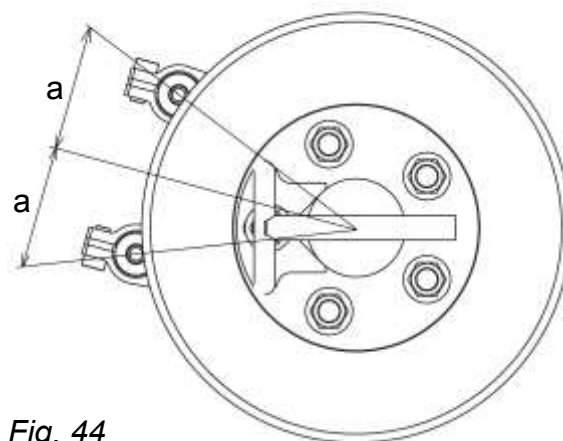

Fig. 44
5. Position the slide piece in the center of the hub. Then hand tighten the UMA mounting adapter M10 bolts, Fig. 44.